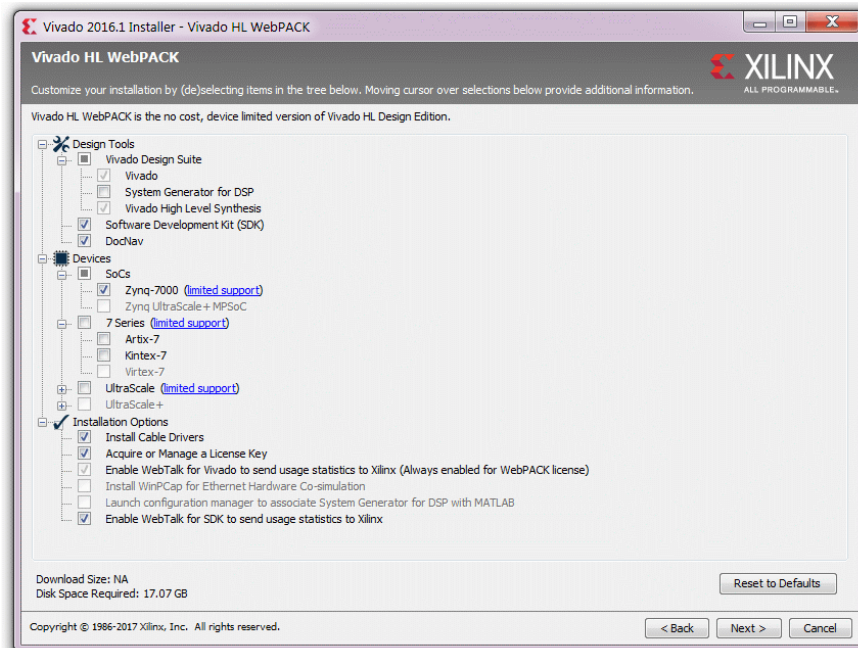

Figure 4: Component selection (lecture “SoC Design”, study program MES only!)
- * **For the lecture “System on Chip Design” of the study program “Master Embedded Systems” ONLY**, select the Zynq-7000 device family (because this device is contained on the FPGA board that is used in this lecture) as well as the “Software Development Kit (SDK)”, see Figure 4.